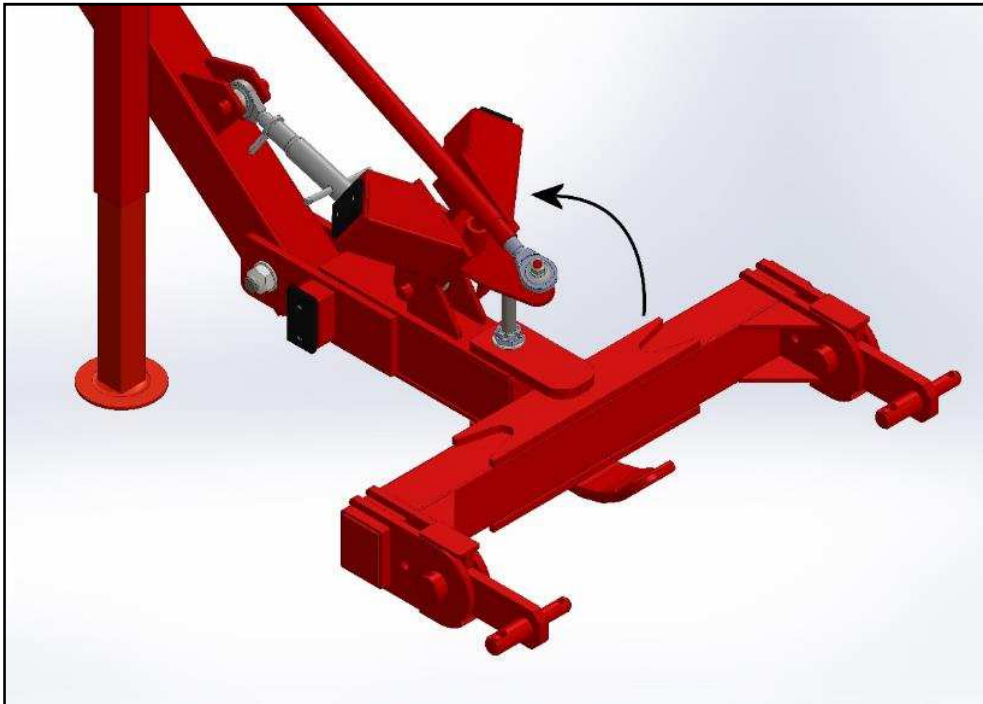

Figure 18
- Lift the V-shaped steering drawbar stop block (see Figure 18) and lock it together with the front part of the moving steering mechanism.